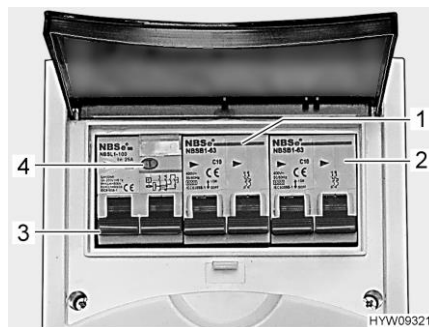

Fig. 82 Safety cutout and FI-switch (230 V fuse box)
A fault current protection switch (FI-switch) (Fig. 82,3) in the fuse box protects the complete vehicle from fault current (30 mA).
The downstream safety cut-out (10 A) (Fig. 82,1) secures the 230 V sockets, the transformer/rectifier, the auxiliary charging unit and the refrigerator.
For vehicles with special equipment, e.g. roof air conditioning unit, the device is protected by an additional safety cut-out (16 A) (Fig. 82,2).
- When the vehicle is connected to the 230 V power supply, press the test button (Fig. 82,4). The fault current protection switch (FI-switch) must be activated.